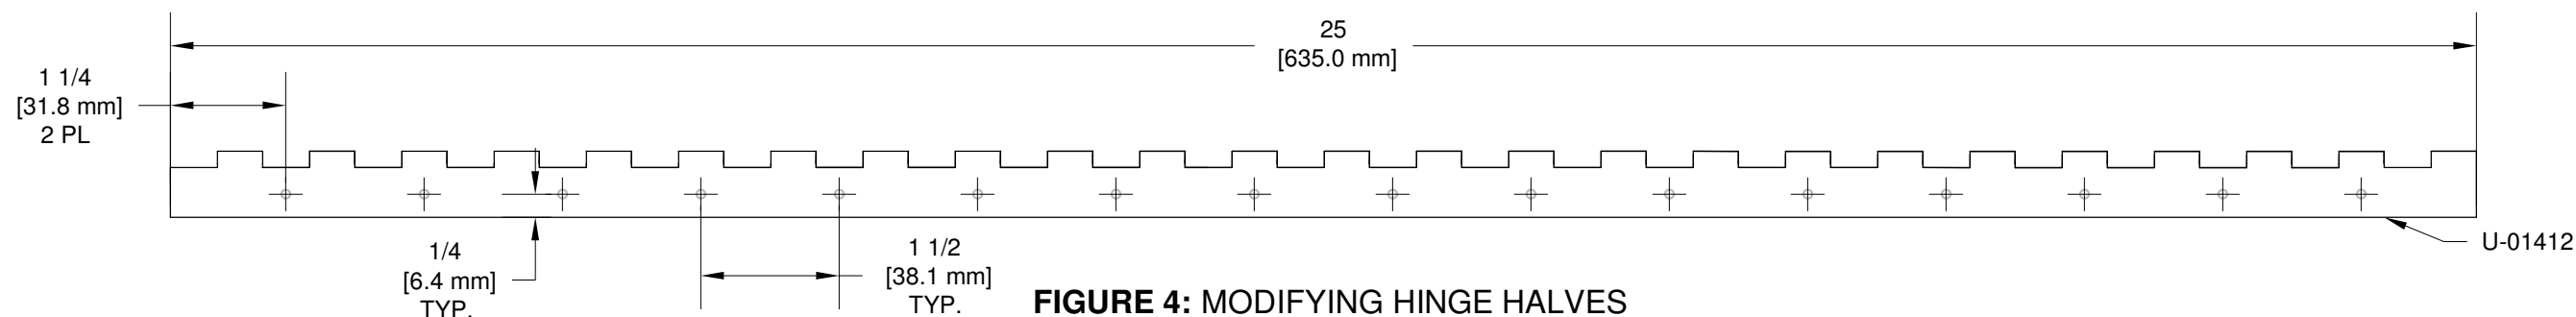

FIGURE 4: MODIFYING HINGE HALVES
Trim the hinge material to the length shown in Figure 4. The hinge will initially overhang each end of the fairing by about 1 [25.4mm].
Step 6: Mark but do not drill the rivet locations on each of the hinge segments as shown in Figure 4. Offset the rivet locations on the opposite hinge by 1/8 [3.2mm] to prevent the clecos from interfering with one-another.